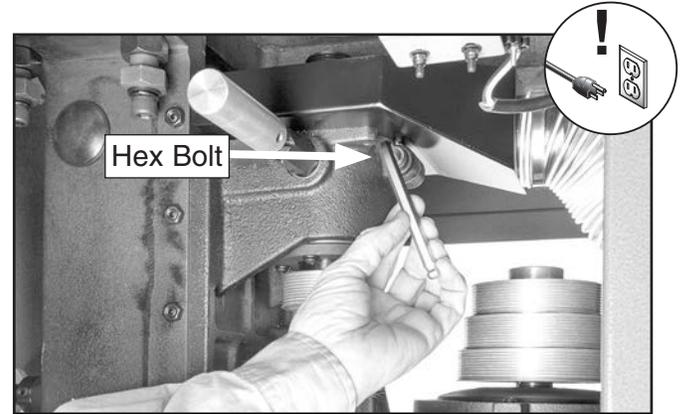

Figure 64. Loosening spindle cartridge bracket.
4. Loosen hex bolt on spindle cartridge bracket (see **Figure 64**).